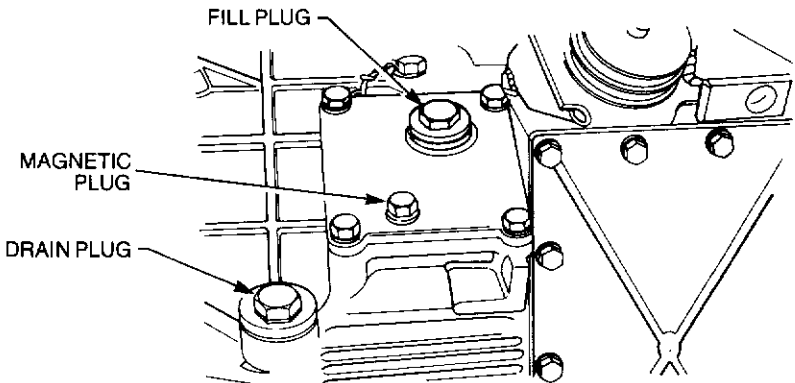

Figure 3-6 Transmission drain and fill plugs
**325.** The transmission fill plug is adjacent to the drain plug (see Fig. 3-6). Fill the transmission with the recommended lubricant to the bottom of the fill hole.